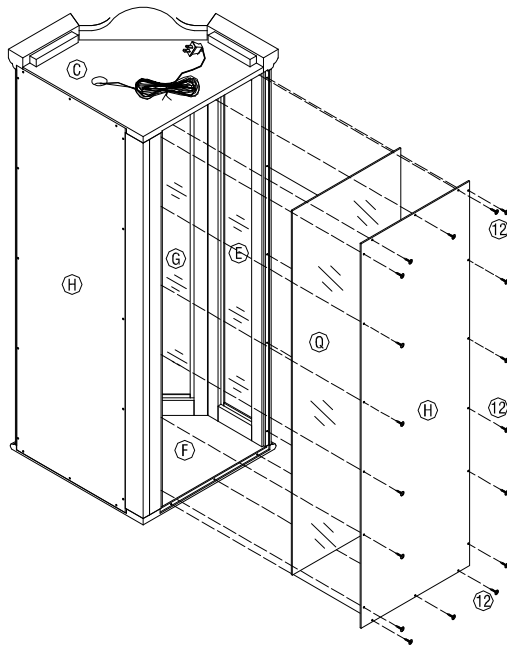

Figure 5
PLEASE BE CAREFULLY ATTACH LARGE BACK MIRRORS (Q) INTO GROOVES OF PARTS (A, B, C, D, E, F), AND ATTACH UPPER BACK PANELS (H) INTO SLOTS OF REAR EDGES OF PARTS (A, B, C, D, E, F). INSERT ROUND HEADSCREWS (12) THROUGH PREDRILLED HOLES ON UPPER BACK PANELS (H) AND TIGHTEN INTO CORRESPONDING HOLES ON REAR EDGES OF PARTS (A, B, C, D, E, F). AS SHOWN IN FIGURE 5.